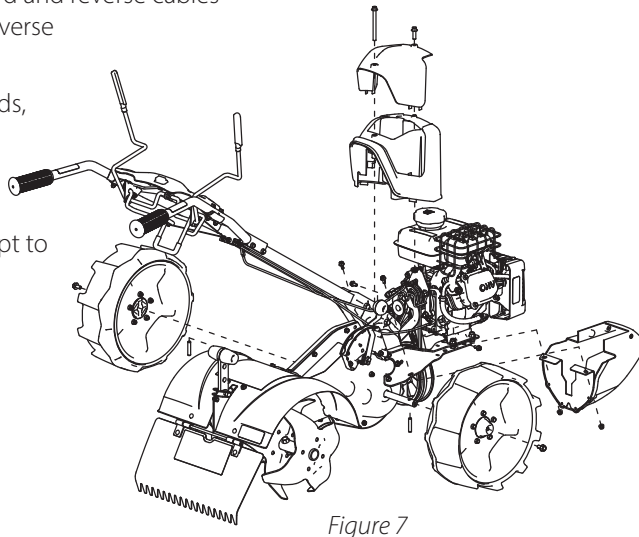

Figure 7
4. Remove wheels, upper pulley shrouds, and lower pulley guards. SEE FIGURE 7
7. Reinstall upper shrouds, lower pulley guards, and wheels. SEE FIGURE 7